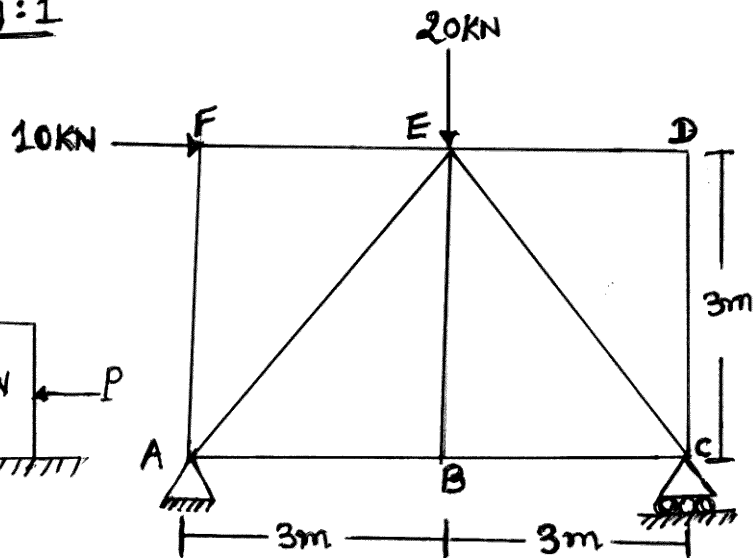

Fig:4
- Q.3** (a) Calculate member forces in simply supported truss shown in Fig:4. **07**